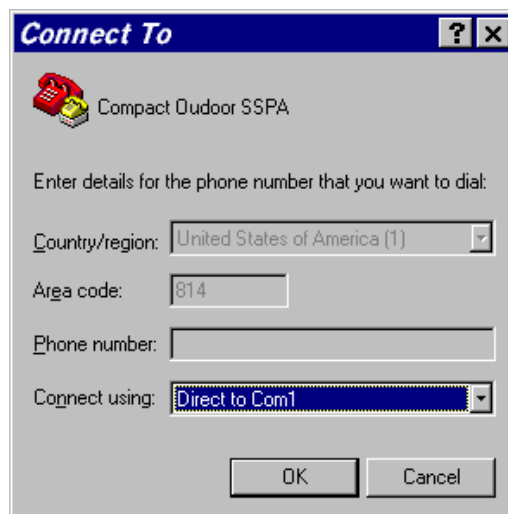

Figure 5-7: Connect To Window
3. Select a direct connection to the PC communication port (Com1 for example), to communicate with the RCP2-1000, and then click “OK.”. See **Figure 5-7**.